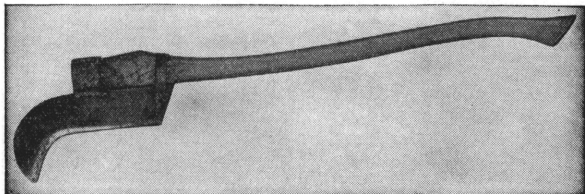

FIGURE 15.—Brush hook.
l. Brush hook (see fig. 15).—The brush hook is a sharp, curved cutting tool used to clear underbrush and to trim branches. It should be swung with both hands at the handle end.